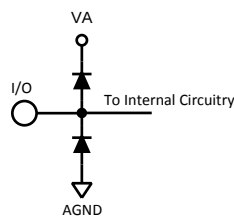

Figure 1.
- (1) The analog inputs are protected as shown in Figure 1. Input voltage magnitudes beyond the supply rails will not damage the device, provided the current is limited per Note 4 under the *Absolute Maximum Ratings* table. However, input errors will be generated if the input goes above V_A and below AGND.
- (2) Test limits are ensured to TI's AOQL (Average Outgoing Quality Level).
- (3) Typical figures are at $T_A = 25^\circ\text{C}$, and represent most likely parametric norms at the time of product characterization. The typical specifications are not ensured.
The analog inputs are protected as shown in Figure 1. Input voltage magnitude up to 500 mV beyond the supply rails will not damage this device. However, input errors will be generated if the input goes above VA and below AGND.